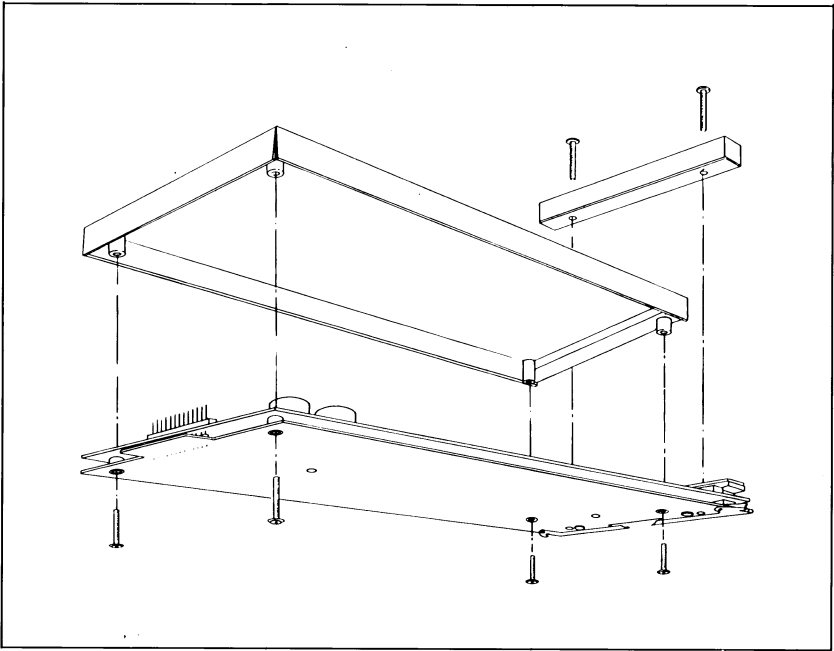

Figure 4-1. Shield Removal
1. Remove the top shield from the Model 7168, as shown in Figure 4-1.
5. Remove the shield from the Model 7168, as shown in Figure 4-1.